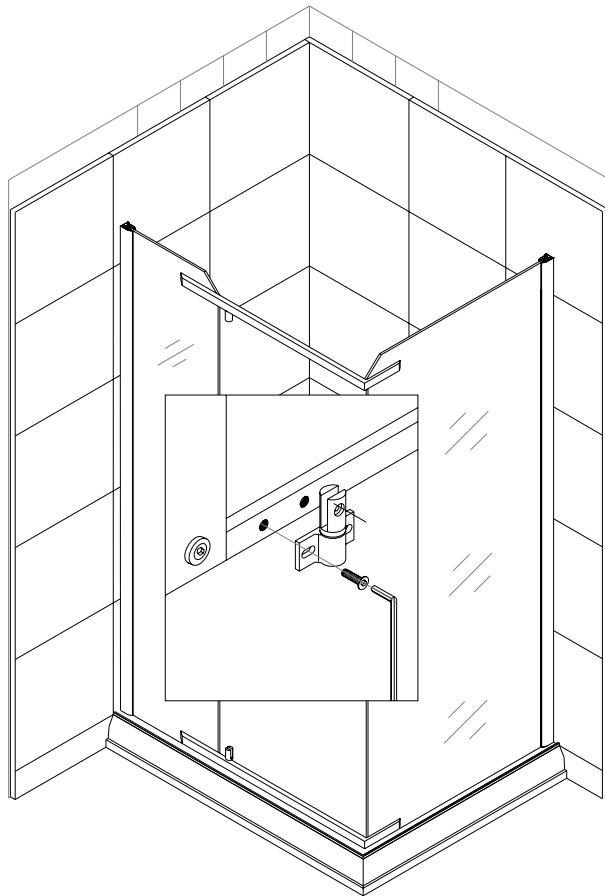

Fig 5
6. Locate two **pivot assemblies (6)**. Fasten them to the L-pivot bar using **M8x12 Round head bolts (17)** (Fig 5).